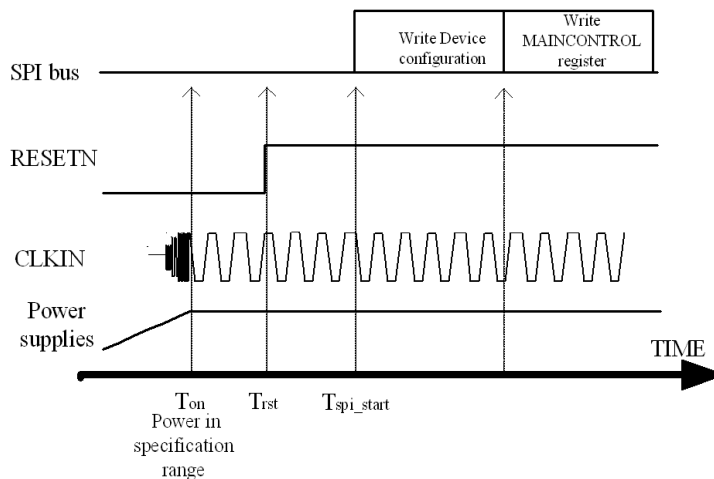

Fig 32. power up sequence
There are four steps for the power-on sequence (see Figure 32):
1. all supplies and clock are switched on. at T_{on} time (see Figure 32), all DAC165xQ supplies have reached their specification ranges and the device clock CLKIN is up and running.